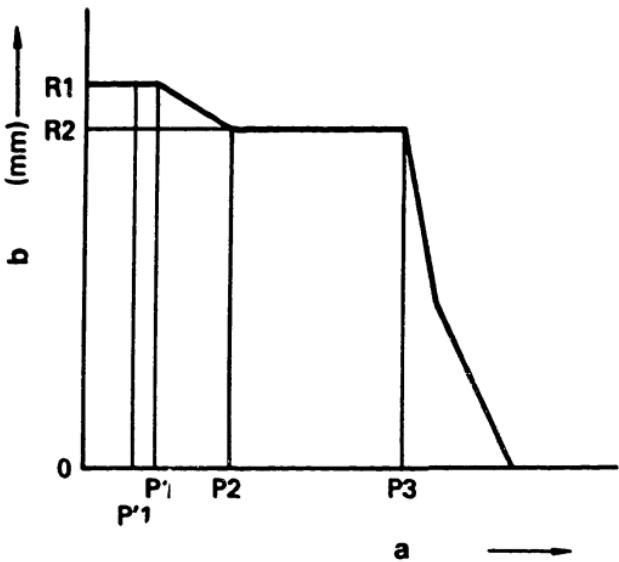

Fig. 82
- 2. When the performance of the pneumatic governor is as shown in Fig. 82:
- a. Maintain pump speed at 1,000 rpm and reduce the pressure of the pneumatic governor's negative pressure chamber to  $P'_1$  mmAq (Fig. 82).